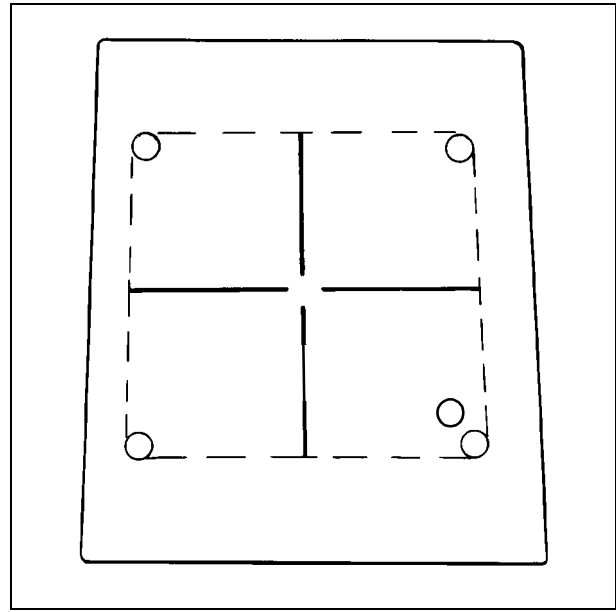

Fig. 8
- Mark the four corners with coins and mark one of the corners with two coins, see Fig. 8.